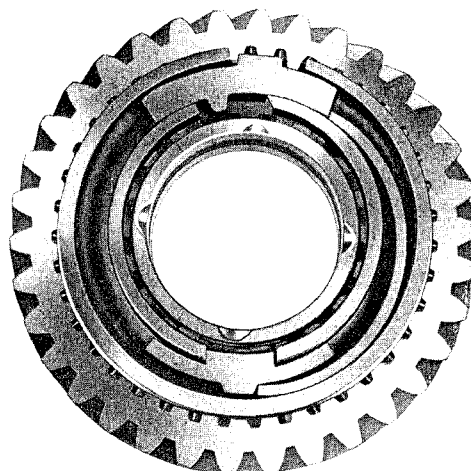

Fig. 54
3. When assembling the synchronizing mechanism of the 1st gear, note that only one brake band is installed as shown in Fig. 54.